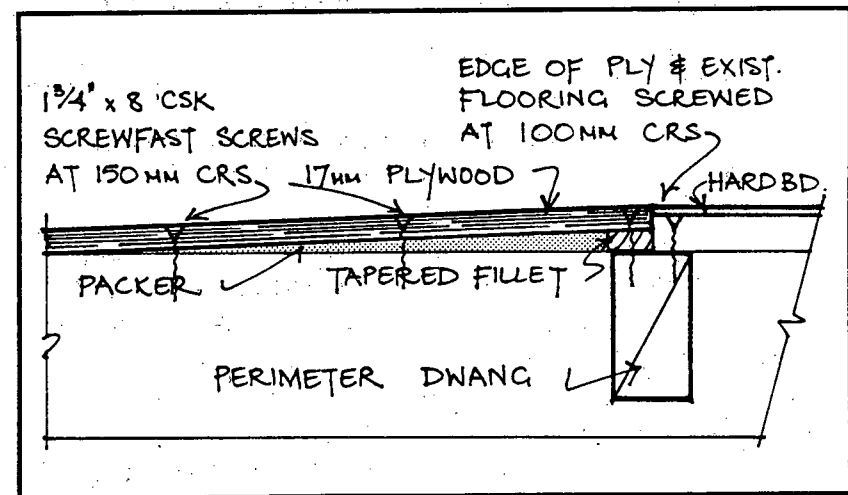

Figure 5
13. Screw the ply down thoroughly, and also all cut edges and ends of the original flooring using $1\frac{3}{4}$ " Screwfast screws throughout. Position screws at 100mm centres along edges, 150mm centres on floor joists and 150mm centres each side of the diagonals (a total of about 150 screws). Figures 5 and 6.
14. Fix 4.75mm standard hardboard to the remainder of the floor area using staples or galvanised nails at 100mm centres. Figures 5 and 6.